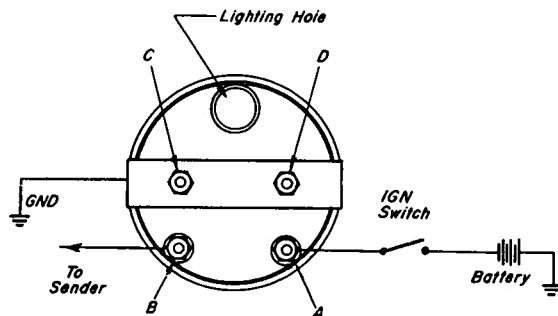

FIGURE 3
3. If gauge has FOUR TERMINALS; (A) for wire to ignition, (B) for wire to sending unit, (C) and (D) for mounting bracket and ground wire. FIGURE 3